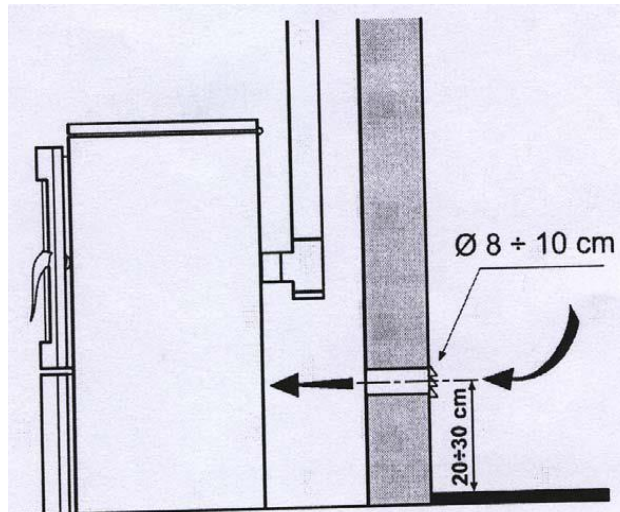

Figure 12 - Minimum distances for the installation of the ventilation grid
4.5. THE INTAKE OF COMBUSTION AIR (Figure 12)